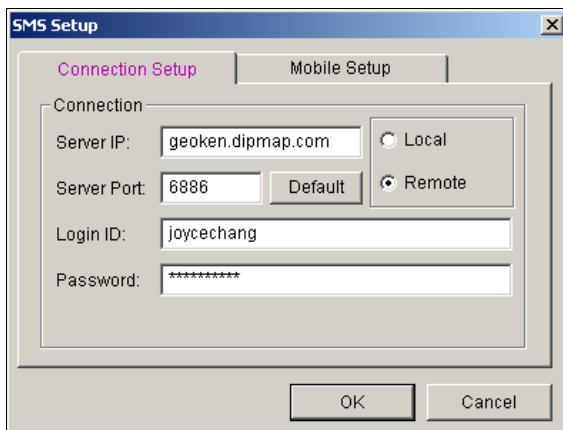

Figure 10-13 SMS Setup- Connection Setup
2. Type a login ID and a password. They will be the ID and password for the client to log in the SMS Server (Figure 10-13).
2. Click the **Account Setting** button. The SMS Setup dialog box appears. (Figure 10-13).